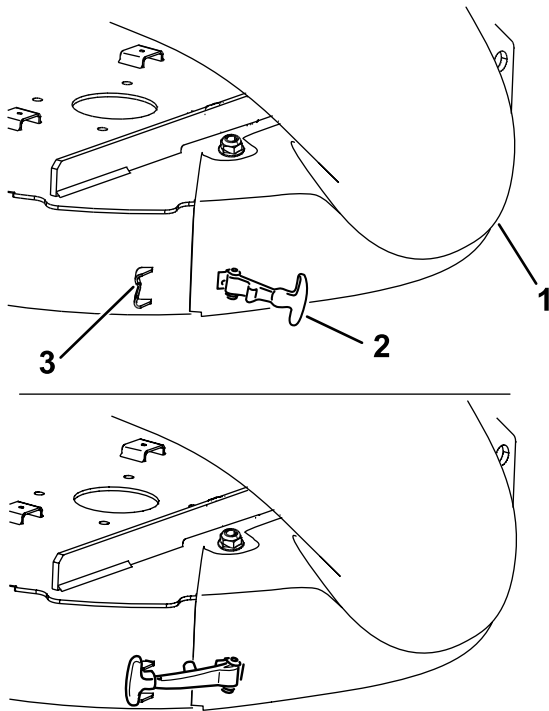

Figure 25
5. Hook the flexible latch on the chute to the retaining clasp welded on the mower deck to the rear of the opening (Figure 25).